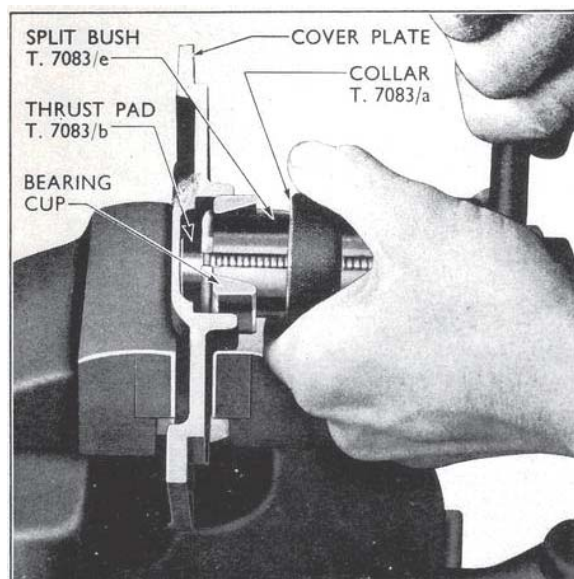

Fig. 8
4. To extract the drive gear shaft pilot bearing cup from the cover plate use Tool T.7083. Assemble the tool so that the centre screw is entered into the threaded bore at the plain end of the split bush T.7083/e, the sections of which must be in the correct sequence so that they are positioned by the thread of the centre screw with their rimmed edges in line. Enter the small thrust pad T.7083/b in the bore at the open end of the split bush, with the plain face away from the centre screw. Hold the sections of the split bush together to prevent the thrust pad from coming out of position, insert the end of the bush through the bearing cup in the cover plate and locate the rimmed edges of the sections of the bush behind the bearing cup. Pass the collar T.7083/a over the tool centre screw and locate it around the end of the split bush. Fit the handle to the centre screw then, holding the collar and split bush, turn down the centre screw to extract the bearing cup from the cover plate (see Fig. 8).